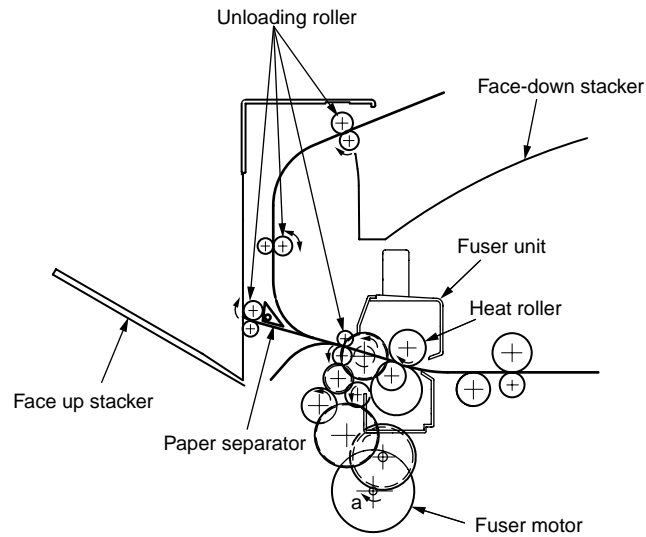

Fig. 2-8
1. The fuser unit and the unloading roller are driven by the DC motors as shown in Fig. 2-8. When the fuser motor rotates (in counter-clockwise direction), the heat roller rotates. This heat roller fuses the toner image on the paper by the heat and pressure.